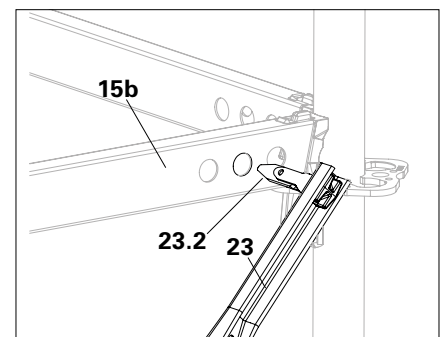

Fig. A4.06d
4. Insert the tilt finger into the hole of the upper ledger (**15b**). (Fig. A4.06d)